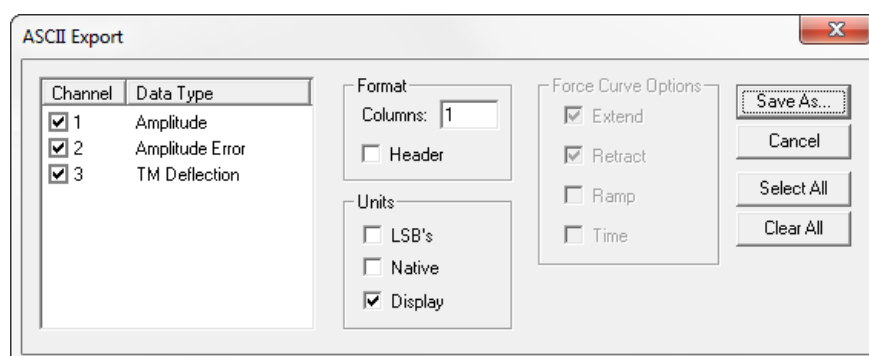

Figure 4.3b: The File Export Dialog Box
3. Click **Export > ASCII** to open the **Export** dialog box, shown in Figure 4.3b.